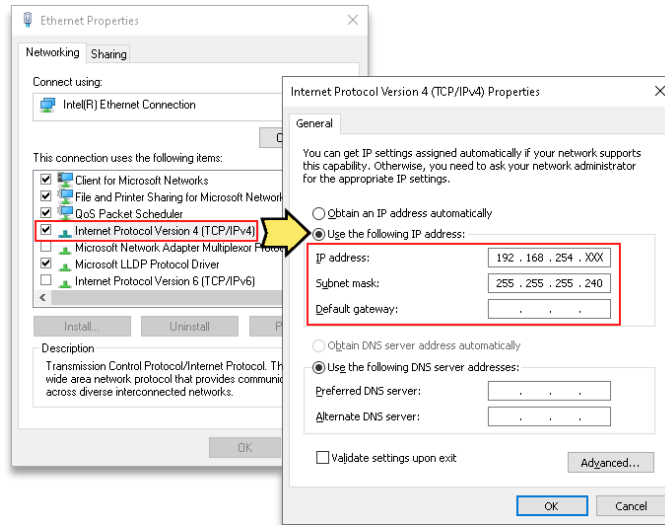

Figure 6: Set Network Interface IP
Step 2: The IP address of the **LAN 2** port of the PIB is fixed to 192.168.254.241 (Supra Command Center interface) and 192.168.254.246 (DCMB Web UI). Ensure that the **LAN 2** IP and the PC/Laptop network interface IP are on the same subnet. As shown in **Figure 6**, the "XXX" parts of the IP Address must range from 240 to 255 and cannot be set to 241 and 246. Additionally, the **Subnet mask** value for the PC/Laptop network interface should be set to 255.255.255.240.